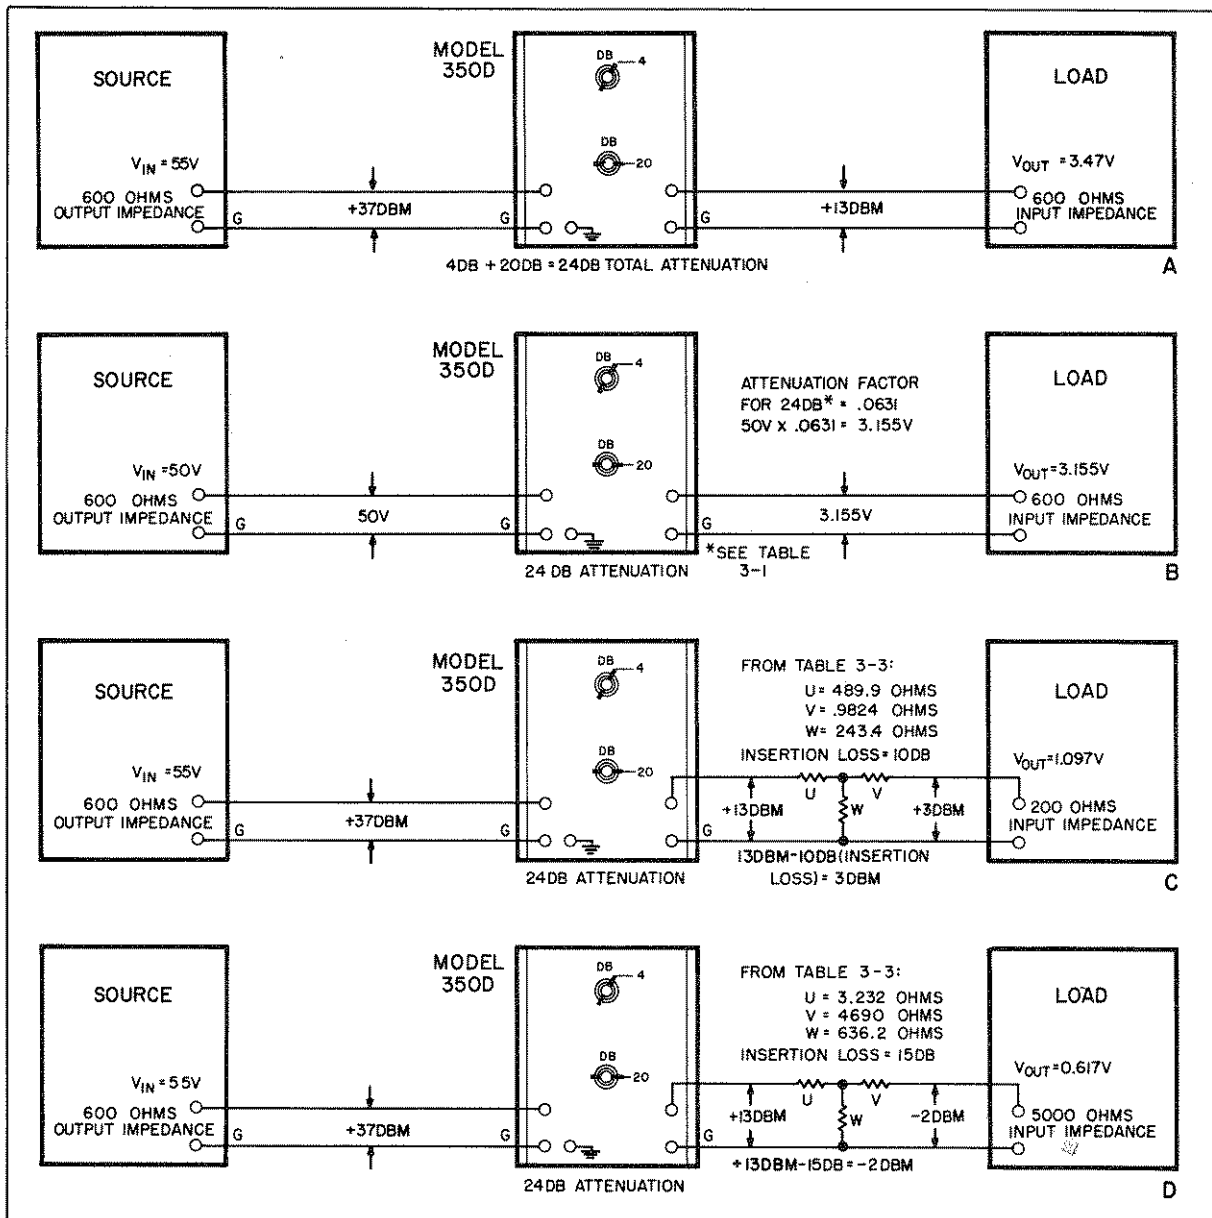

Figure 3-1. Model 350D Typical Applications
3-11. In Figure 3-1 A and B the Model 350D is shown connected to a matching source and load. In both cases the Model 350D is set to attenuate the signal by 24 dB. The attenuation factor for 24 dB from Table 3-1 is 0.0631 and the output voltage, for the conditions shown in Figure 3-1A, is then:
4-8. The dB levels given in figure 3-1 are referenced to a milliwatt of power, hence the term dBm. This indicates that the logarithm is taken of a power ratio where 1 milliwatt is the reference. For the 37 dBm shown in figure 3-1D, equations (1) and (2) show that: